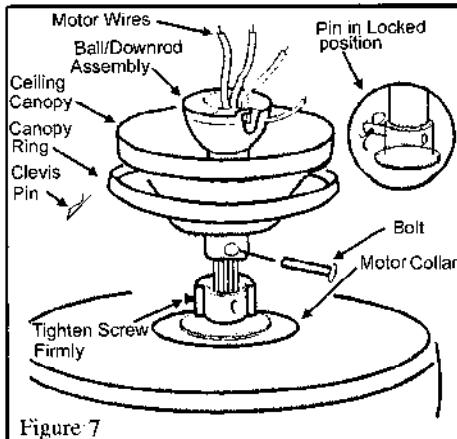

Figure 7
4. Route the wires exiting the top of the fan motor through the canopy ring, canopy and then through the ball/downrod assembly (Figure 7).
6. Align the holes at the bottom of the downrod with holes in the collar on top of the motor housing (Figure 7).
Carefully insert the bolt through the holes in the collar and downrod. Be careful not to jam the bolt against the wiring inside the downrod. Insert clevis pin and bend to ensure security, as noted in the circle inset of Figure 7.
7. Tighten the two screws on the collar on the top of the motor housing (Figure 7).